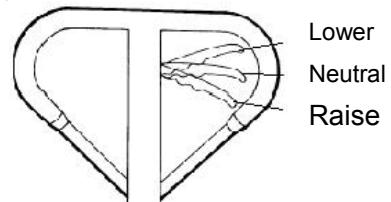

Fig. 8: Control lever
If necessary, you can adjust the lever according to following steps (Fig. 8):
- c) If the forks do not descent when the control handle is in the **Lower** position, turn the adjusting nut clockwise until raising the control handle lowers the forks. Then check the **Neutral** position according to fig. 8 and be sure that the adjusting nut is in the proper position.